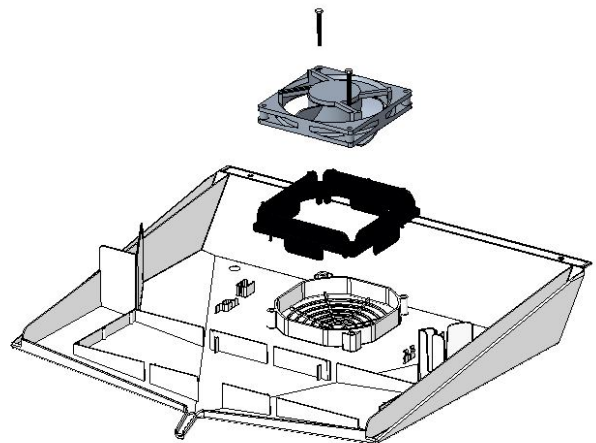

Fig. 8
3. Open dew collector and unscrew 2 screw of fan Motor as shown in Fig. 8 and remove 12VDC Fan motor from dew collector.